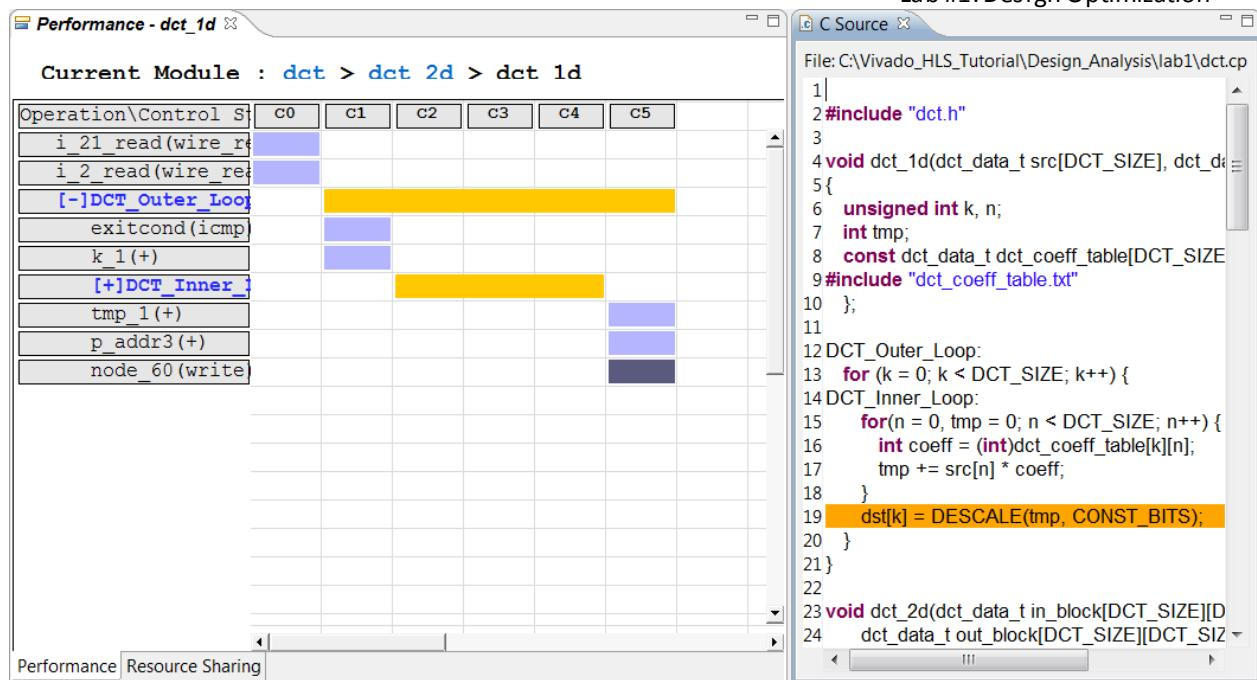

Figure 125 DCT Solution2 dct_1d Performance View
- In the Performance view, click on loops DCT_Outer_Loop and DCT_Inner_Loop to view the loop hierarchy (Figure 125).
Figure 125 shows that this loop was not flattened because there are additional operations (one of the operations is highlighted in the figure) outside of DCT_Inner_Loop, at the level of DCT_Outer_Loop, which prevented loop flattening.